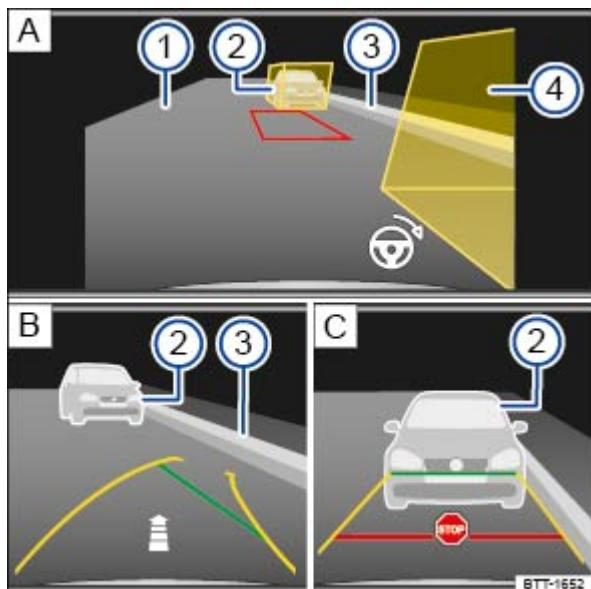

Fig. 136 Orientation lines for parallel parking (if equipped).
Key to Fig. 136 :
- Position the vehicle about 3 feet (1 meter) away from and parallel to the parking space. The yellow boxes should completely cover any boundaries  Fig. 136 **A** ② and ④. The space between the boxes must be free of obstacles.
- Without moving the steering wheel, slowly back up until the stop sign  appears **OR** until the side green line aligns with the side boundary of the parking space, for example, the curb **B** ③ . An arrow shows the approximate remaining distance, based on the number of segments shown in the arrow.